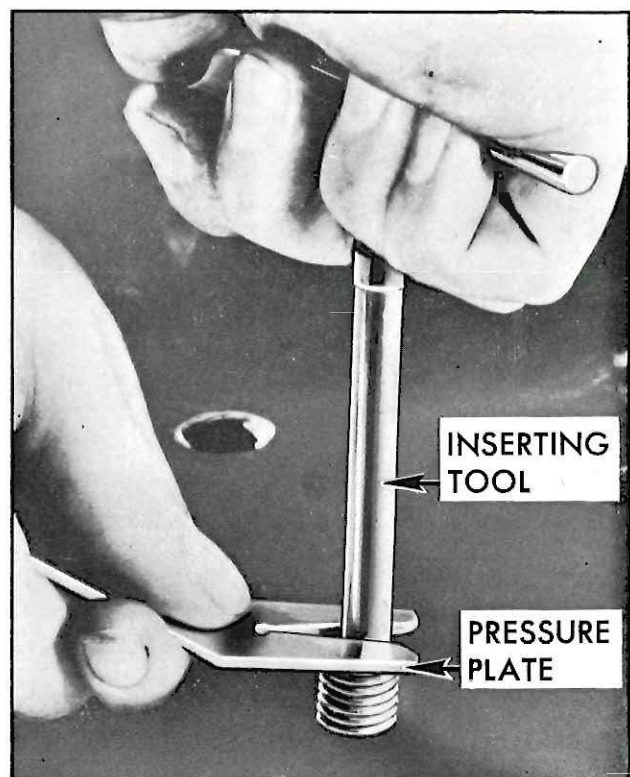

Fig. 2—Installing Insert
2. Place the insert, still mounted on the inserting tool, squarely over the tapped hole. Position the pressure plate on top of the insert and apply a downward force. Do not apply downward force on the inserting tool (fig. 2).